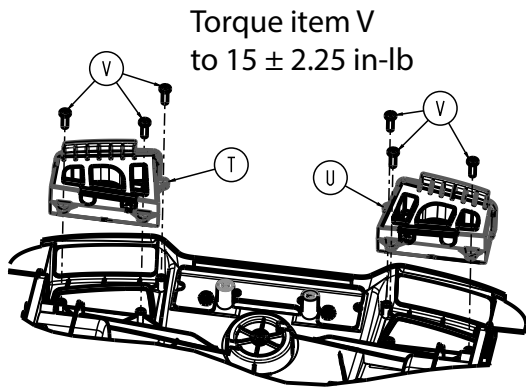

Figure 30 –
5. Using a T20 Torx driver, remove the three pan head thread forming screws (V) that secure the backrest UI module (T or U) to the backrest (Figure 30). Save the screws.